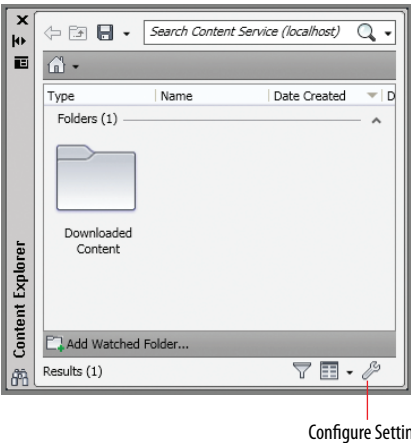

FIGURE 9.14 An empty Content Explorer
1. Click the Add-Ins tab on the ribbon, and click the Explore tool on the Content panel; the Content Explorer appears (see Figure 9.14).